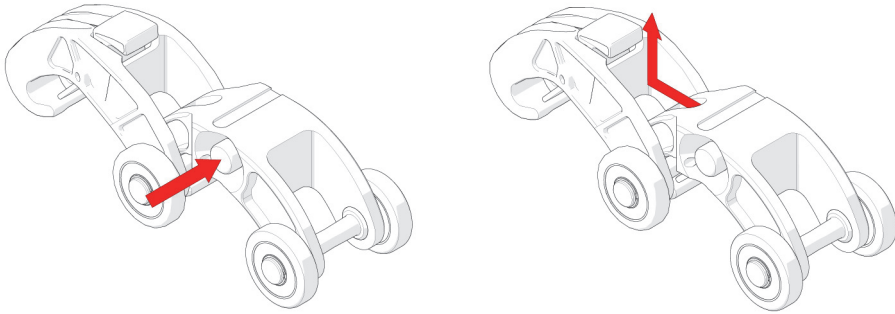

Figure 3-44 Press red button, slide forward, and lift
1. Press the button on the side of the dovetail QuickLink (Figure 3-44 on page 65).
2. While pressing the red button, slide the dovetail QuickLink forward and up, clearing the hook of the dovetail QuickLink from the second QuickLink's axle (see Figure 3-44 on page 65).